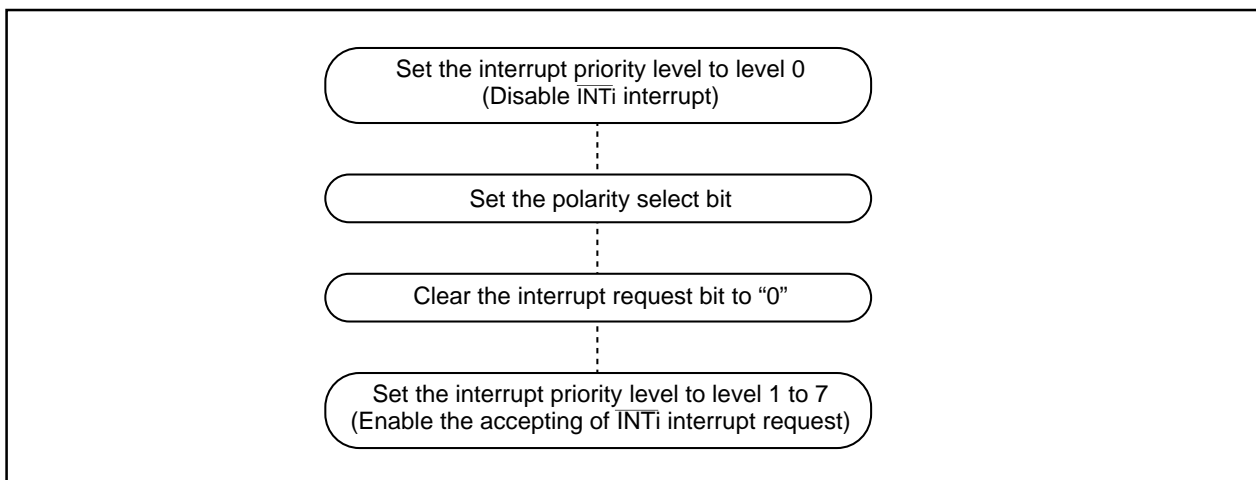

Figure 1.31.2. Switching condition of  $\overline{INT}$  interrupt request
- When the polarity of the  $\overline{INT}_0$  to  $\overline{INT}_5$  pins is changed, the interrupt request bit is sometimes set to "1". After changing the polarity, set the interrupt request bit to "0". Figure 1.31.2 shows the procedure for changing the  $\overline{INT}$  interrupt generate factor.